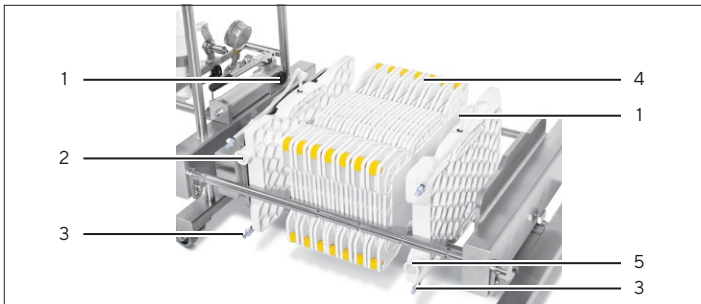

Fig. 5: Insert cassette(s) between the manifold inlet and outlet plates on the Pilot Filter Holder.
Procedure for Cassettes (see fig. 5)
- ▶ Unpack the manifold set containing 1 inlet (2) and 1 outlet (5).
- ▶ Place the cassettes (4, see Fig. 5) in the lowest possible position in the holder.
- ▶ The cassettes (4) used for chromatographic separation must originate from the same lot.
- ▶ Put the desired number of Sartobind® cassettes (4) between the manifolds (see Fig. 5).
- ▷ Close all DRAIN and VENT valves (1) of the manifold plates manually using the pinch clamp.